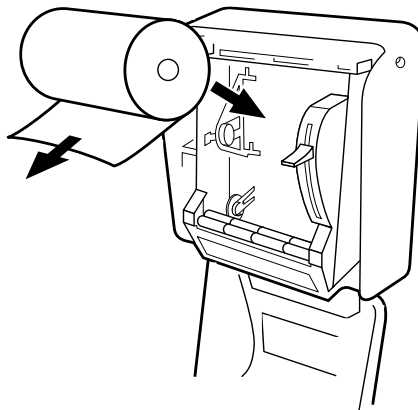

Figure 6
1. With the door open, insert one (1) roll of HRT product in the direction shown in Figure 6.